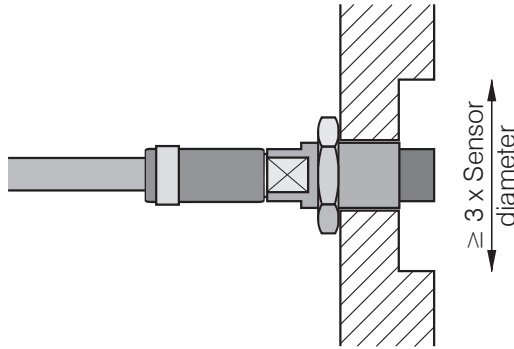

Fig. 15 Flush mounting of an unshielded sensor in a metal holder.
- Mount the unscreened sensors flush in a metal sensor holder. Make sure that a recess of a size three times the sensor diameter is used, see Fig. 15.